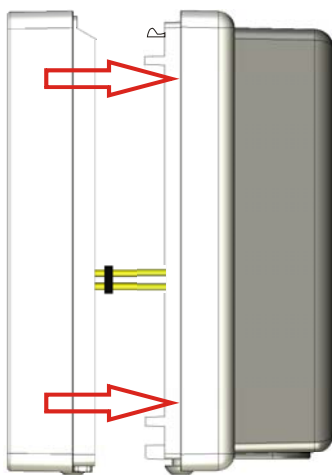

Fig. 5 Fitting of the housing cover
- Put the casing upper part straight onto its bottom part and snap it in. (see Fig. 5)
**Insert the pin board X1 of the Reader electronic carefully in the socket board X1 of the connection board (1)!**